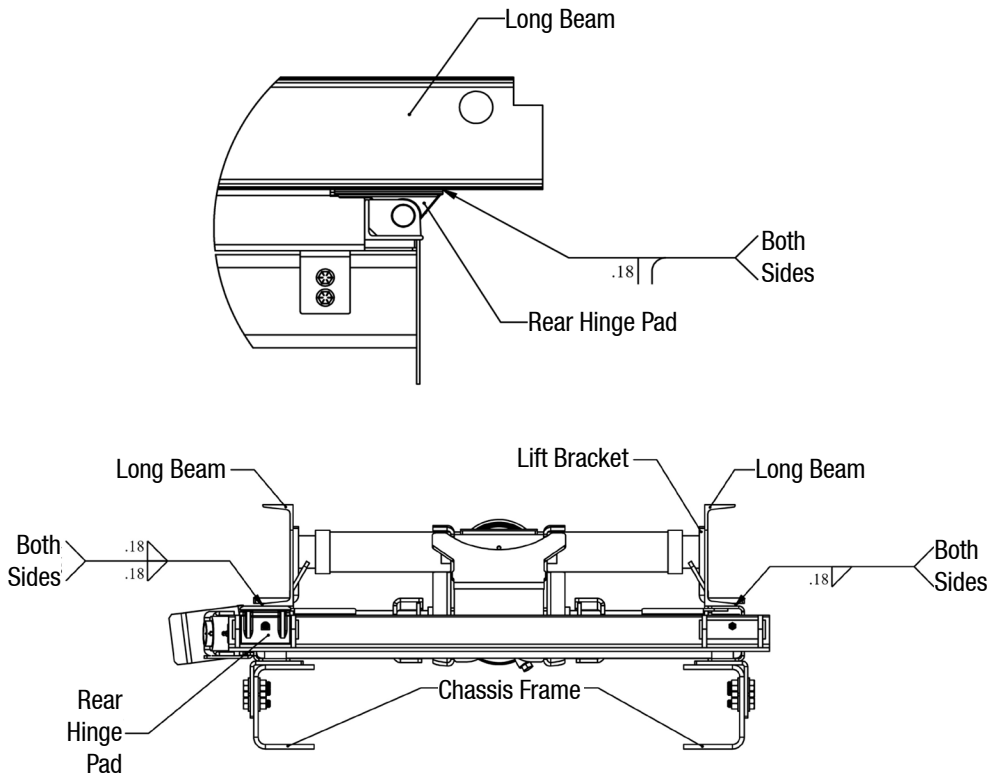

Figure 9: Body to Sub-frame Installation
7. Position the rear hinge brackets against the bottom side of the long beams. Once in position, weld the rear hinge brackets to the body long beams as shown in Figure 9.
8. Slide each lift bracket against the inside of the long beam channel. Then weld the lift bracket to the outside of the long beam (Figure 9).